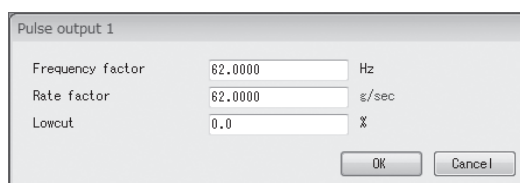

Fig.44
- ① Click on "Setup (S)" > "Outputs" > "Analog output 2" in the menu.
- ② "Analog output 2" can be set by following the same procedures as described in 3.6.2.3 "Analog output 1", steps ② to ⑤ .
- ① Click on "Setup (S)" > "Outputs" > "Pulse output 1" in the menu.
- ② The following window will be displayed (Fig. 44). Set pulse output 1 here.